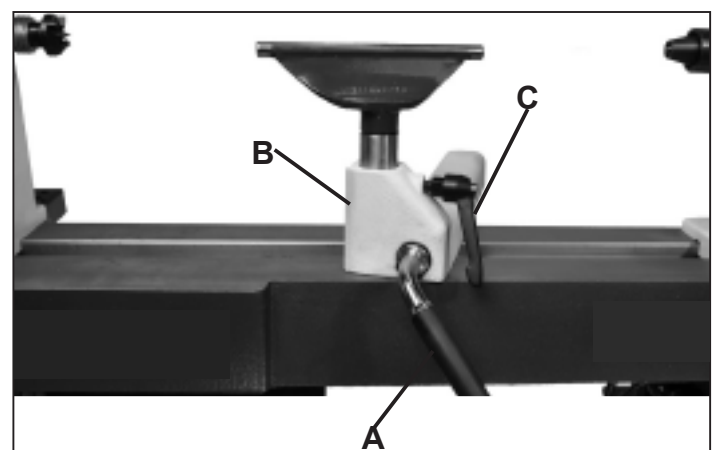

Fig.5.2
1. TOOL REST BODY LOCK HANDLE: (FIG. 5.2, A) This cam action lever handle locks the tool rest base (B) down in position on the lathe bed. Unlock handle to position the tool rest in any location along the lathe bed. Tighten the handle when the tool rest is properly located for safe turning of the workpiece. See page 12 for adjusting clamping pressure.
2. TOOL REST LOCK HANDLE: (C) Locks the tool rest in position for supporting your tools during turning. Unlock the handle to adjust the tool rest at a specific angle, or height. Tighten handle when properly positioned.